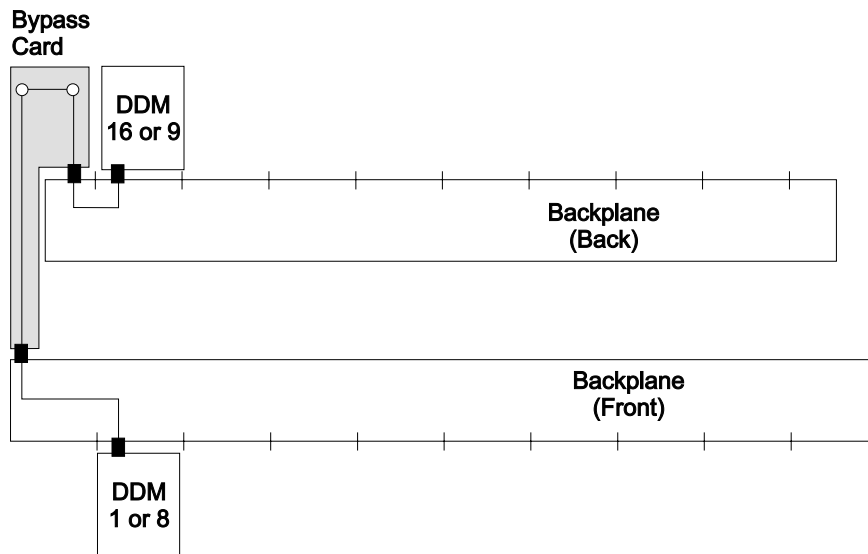

Figure 54. SSA Link Failure, Bypass Card and Two DDMs (S008144m)
- The failing link is between two end DDMs, on different backplanes, and the bypass card that links them. See Figure 54.